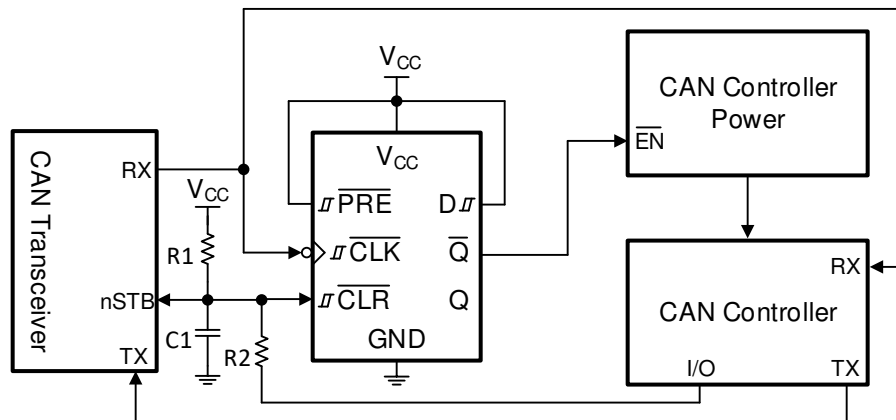

图 12. Power Enable Using CAN Wake-up Request
With the SN74HCS72-Q1, a power on reset circuit only requires a resistor (R) and capacitor (C) to create a delay. The R and C values create a delay that is approximately $2.2 \times RC$. In this application, it is desired to have the output (\bar{Q}) in the HIGH state at startup, so R1 and C1 are connected directly to the \bar{CLR} pin, as shown in 图 12. A second resistor is needed to limit the current into the CAN controller when it sets the circuit back into standby mode. It is required for the R1 resistor to be at least ten times larger than R2 to avoid a divider circuit ($R2 \leq 10R1$).